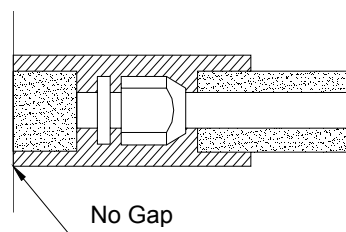

**Fig.40**
10. If conditions allow, use a vacuum pump to remove air out from the valve. Refer to Figure 40